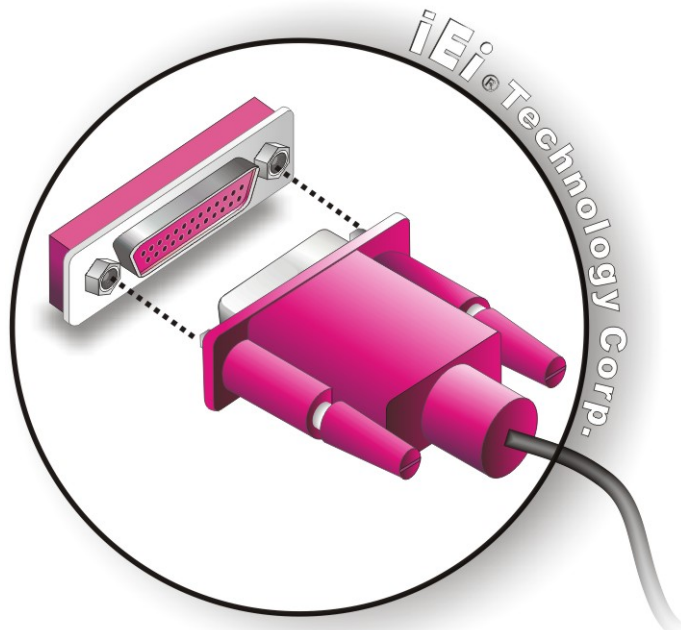

Figure 5-20: Parallel Device Connector
Step 2: Insert the DB-25 connector. Insert the DB-25 connector of a parallel device into the DB-25 connector on the external peripheral interface. See Figure 5-20.